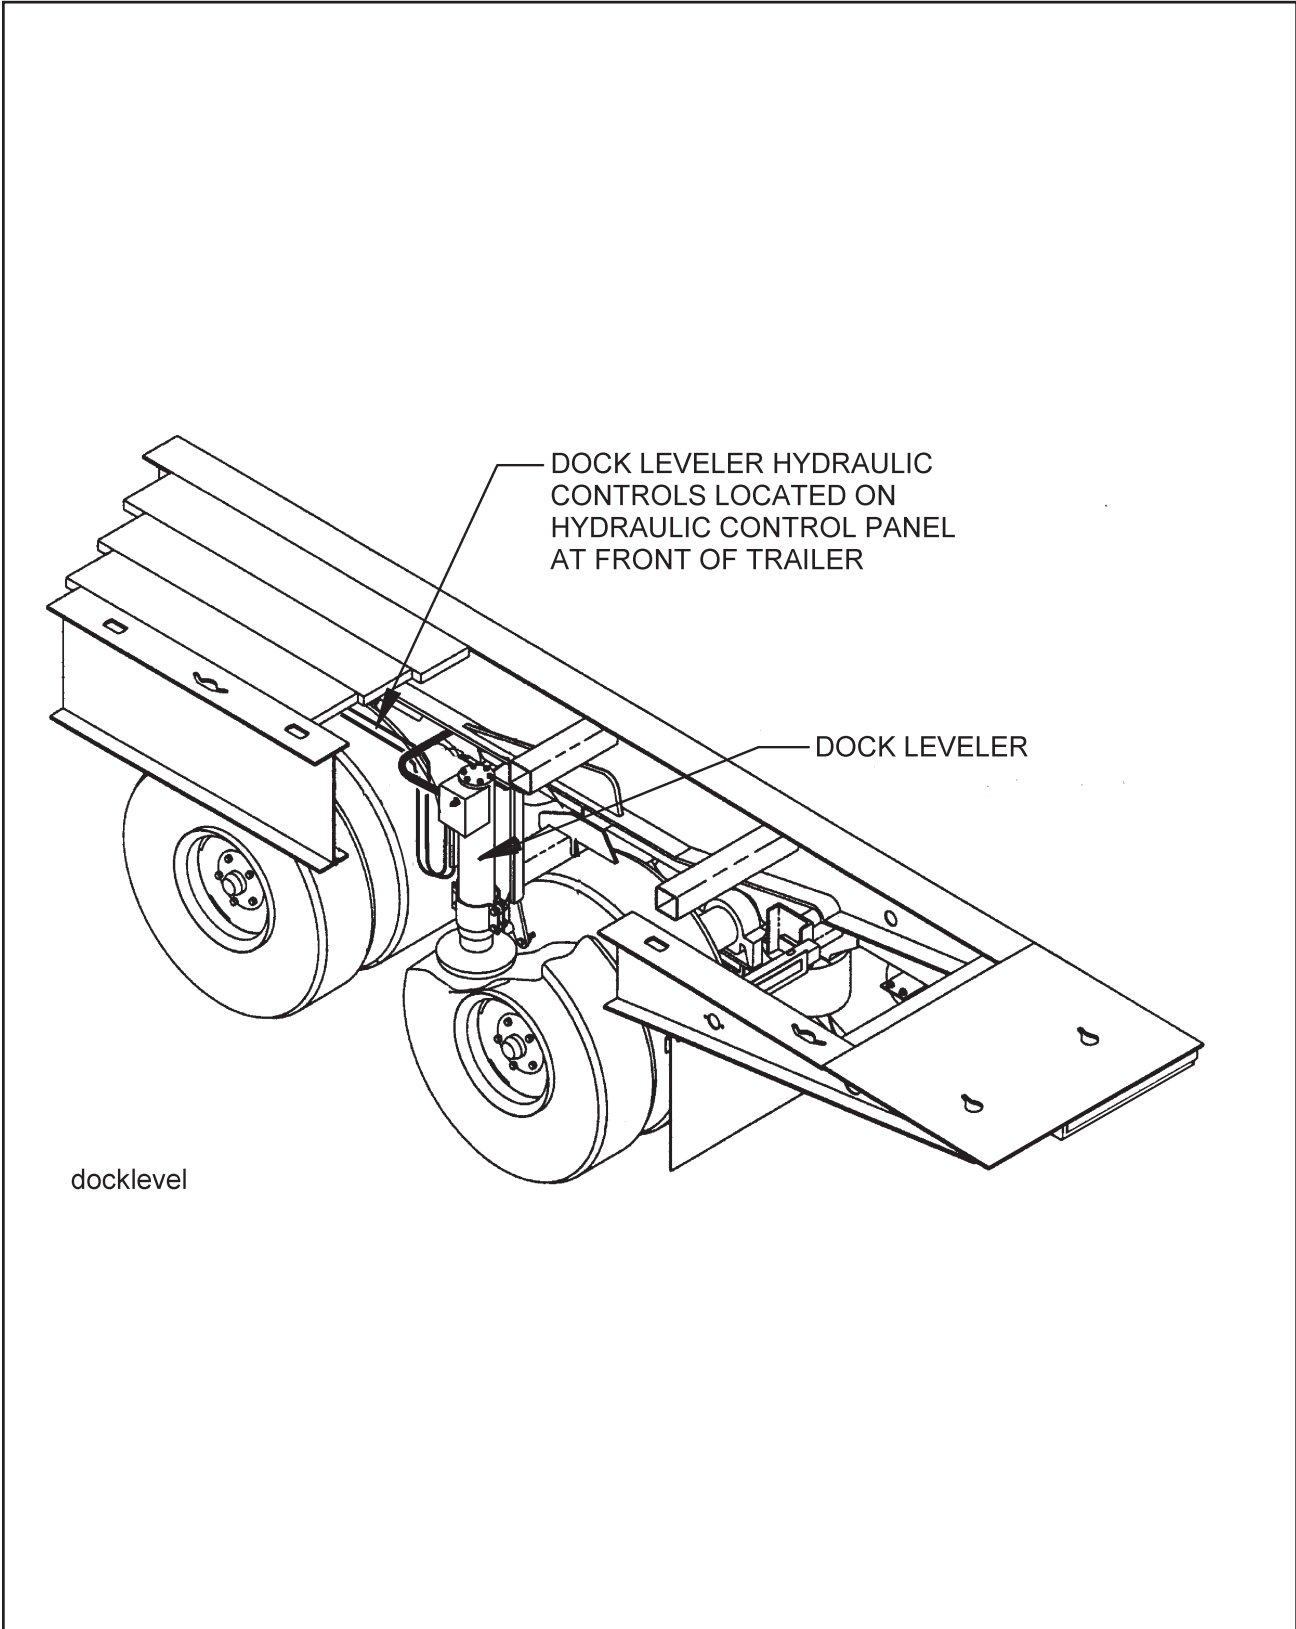

Figure 3-10 Dock Leveler Operation
**3-17.2** If your semitrailer is equipped with optional dock leveler hydraulics, these may be used to level the rear of the semitrailer to a loading dock. The dock leveler pair is located at the rear of the trailer between the axles (See **Figure 3-10**).